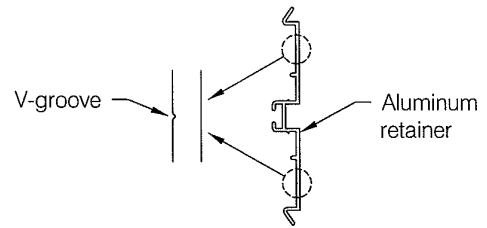
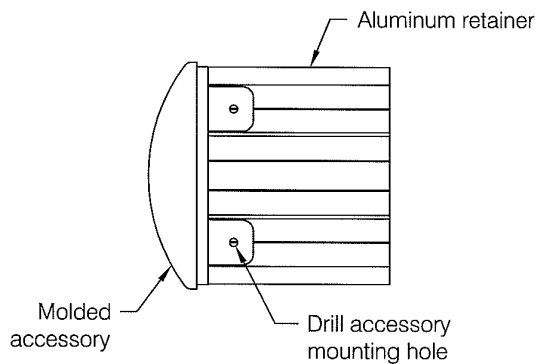
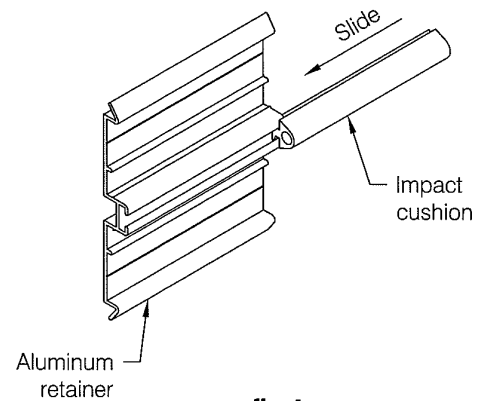

fig 2
fig 3
fig 4
- Step 3:** Pre-drill clearance holes in aluminum retainer along V-Grooves provided using a #15 (.180") bit for #8 fastener or a #7 (.201") bit for #10 and 3/16" fasteners, see **fig 2**. Stagger mounting holes between upper and lower V-Grooves 16" on center such that fasteners are 32" on center along each groove. If necessary adjust spacing to accommodate studs. Do not pre-drill at locations that will interfere with installation of molded accessories.
- Drywall Installation:* Using the accessory as a template pre-drill clearance holes for mounting through to metal backer or stud or pre-drill pilot holes using #29 (.136") bit for #8 fastener or a #21 (.159") for #10 fastener for attaching accessories directly to aluminum, see **fig 3**.
- Masonry Installation:* Using the accessory as a template pre-drill clearance holes at mounting locations, see **fig 3**.
- Step 5:** Install B-100-0-1 impact cushion by sliding it into opening provided in aluminum retainer, see **fig 4**.
- Step 3:** Pre-drill clearance holes to locate wall mount fasteners and rubber spacers 1/4" in from upper and lower V-Grooves, see **fig 2**. Stagger holes above and below the centerline of the profile approximately 16" on center, see **fig 3**. Drill for an additional spacer where aluminum terminates at molded accessories and at minimum layout configurations, see **fig 3** and **fig 4**. Drill using a #7 (.201") bit for #10 and 3/16" fasteners. See **step 7** and **fig 8b** for optional butt joint using wall mount fasteners and rubber spacers.
- To avoid interference with accessory mounting hardware, see **fig 4**
- 3 1/8" to 4 1/2" on center from end caps, see **fig 4**
- 2 3/8" to 4 1/2" on center from inside corners, see **fig 4**
- 3 1/8" to 8" on center from outside corners, see **fig 4**